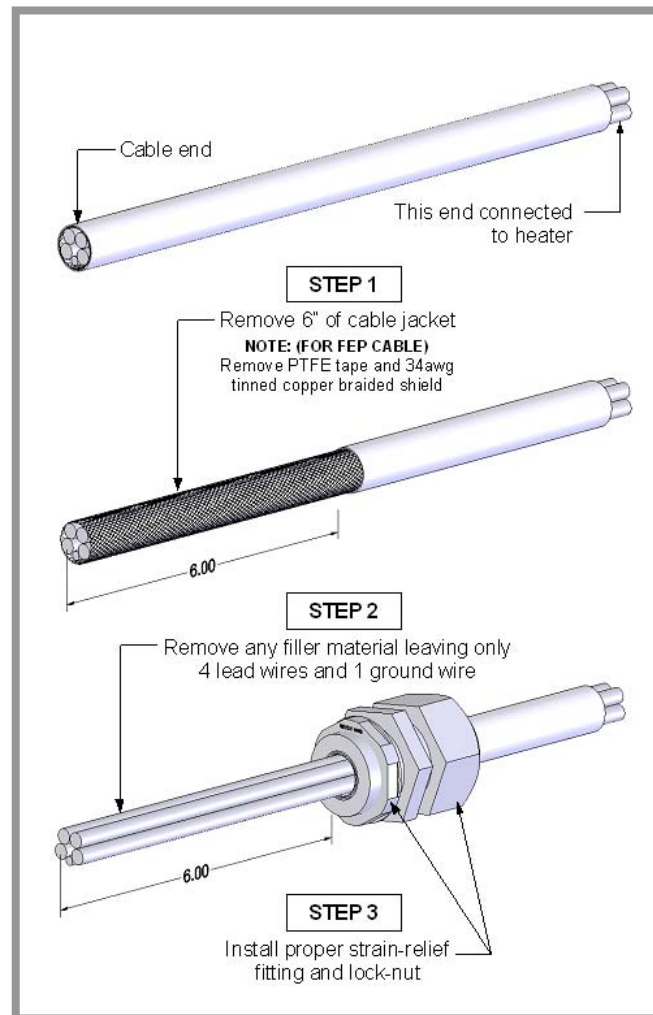

Figure 7: Cable Stripping/Trimming Steps
- 1) Cut outer jacket of cable to desired length, taking care not to damage the insulation on the internal power wires (See figure 7.)